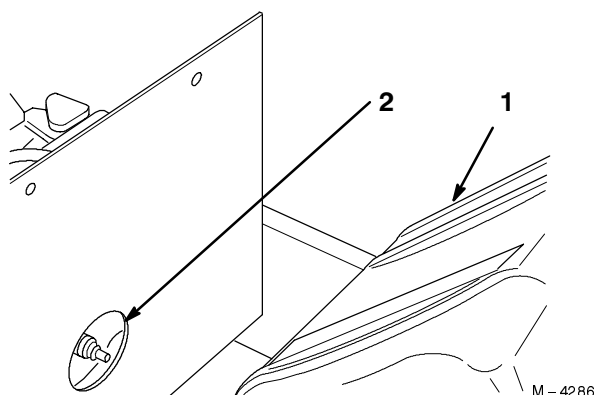

Figure 20
3. To gain access to the rear spark plug the gas tank must be removed (Fig. 20).
3. Push the wire(s) onto the spark plug(s) (Fig. 20).